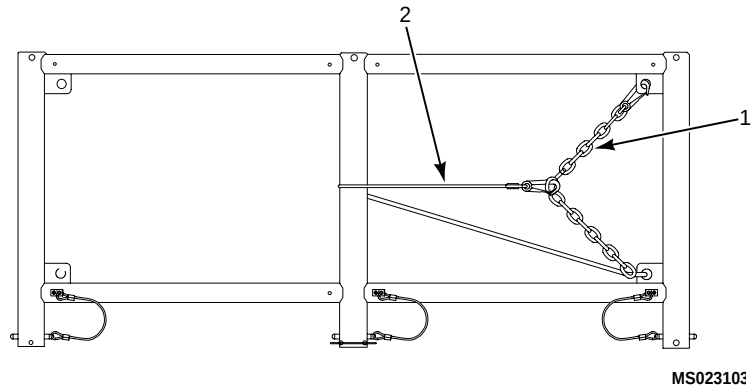

Figure 3. Side Handrail Assembly Preparation for Storage
13. Secure chain assemblies (1) on each side handrail assembly with bungee cords (2) to handrail (forming "V" configuration) so that chains do not interfere with grating. (Figure 3)
2. Remove three bolts (1), three lock washers (2) and three flat washers (3) at the rear of HMMWV. (Figure 3)
3. Remove two bolts (4), two lock washers (5) and two flat washers (6) from front of Main Box Assembly.